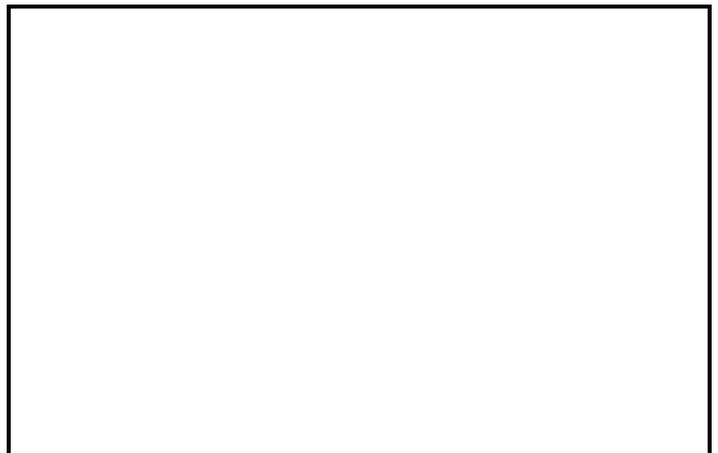

FIG.5 Double check of alignment as shown on a dual-trace scope.
6. Double check the cell alignment by running a 100% stereo alignment film, or the Dolby Cat. No. 97 left/right STEREO ALIGNMENT film. The amplitude of the two 100% modulated wave forms should be identical. (See Fig. 5). If one is greater than the other, whilst the modulated wave forms of the 50% level film are identical, there is a problem with the scanning beam. Either the slit is not uniformly illuminated along it's length, or the scanning beam is not in perfect alignment with the film guide roller and solar cell. Since most sound head optics cannot be moved in or out, it will be necessary to adjust the position of the film guide roller and realign the solar cell so that both the 50% and 100% modulated tones match from channel to channel. When this fine alignment is not done, loud sounds (above 50% modulation) will be distorted and will leak into the surround speakers.